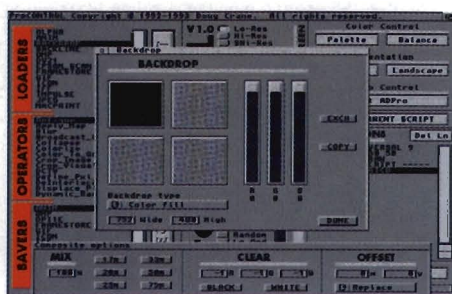

Figure 2
10. Double-click on the BackDrop Loader (Figure 2). In the requester, change the Backdrop Type to Color Fill, make the image size 752x480, make sure the color sliders are set to 0-0-0 unless you want something else, and click Done. The Backdrop Type doesn't matter for what you want to do.